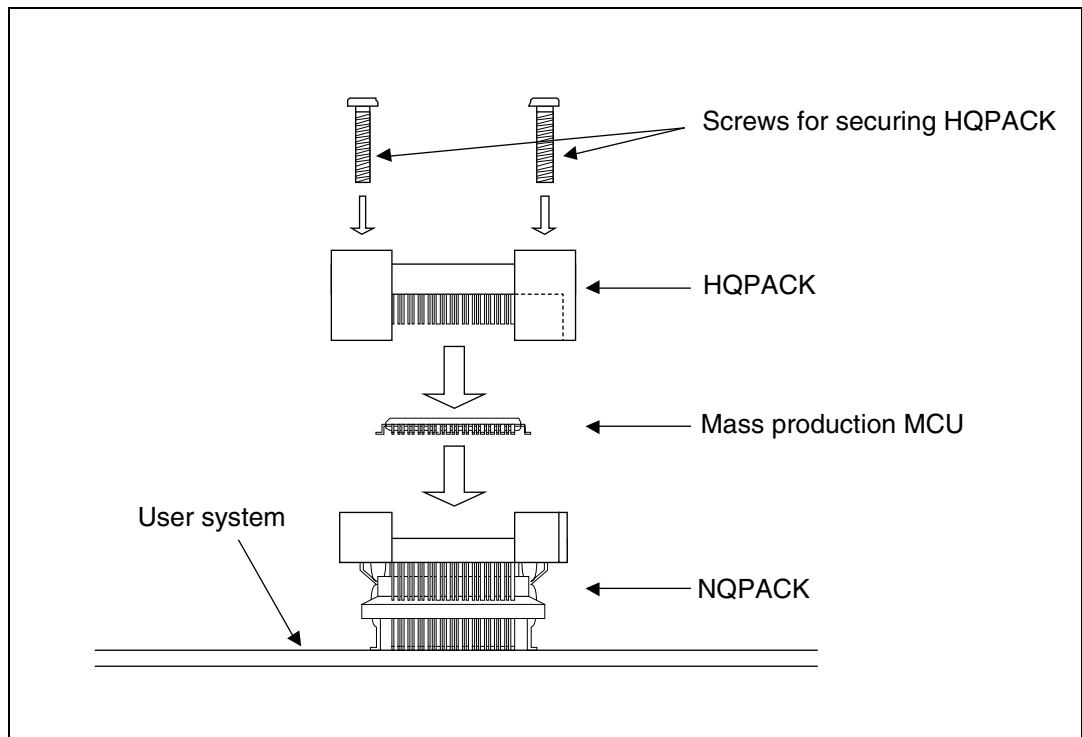

Figure 5 Mounting a mass production MCU
2. Confirm that the mass production MCU is correctly mounted on the NQPACK, and then align the index of the HQPACK with the index of the NQPACK (the corner that has a straight-line notch cut out of it) and insert the HQPACK into the NQPACK (see “Figure 5”).